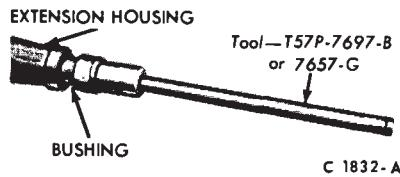

FIG. 7—Installing Extension Housing Bushing
4. Drive a new bushing into the extension housing with the tool shown in Fig. 7.